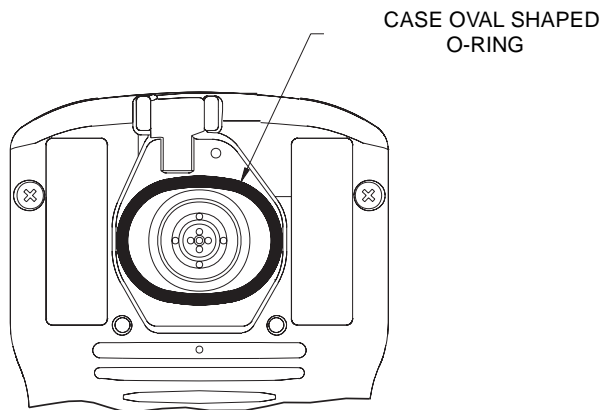

Figure 24:
- If the case oval-shaped O-ring comes out inadvertently when changing the filters replace it in the oval-shaped groove in the back case before replacing the filter housing (see Figure 24).